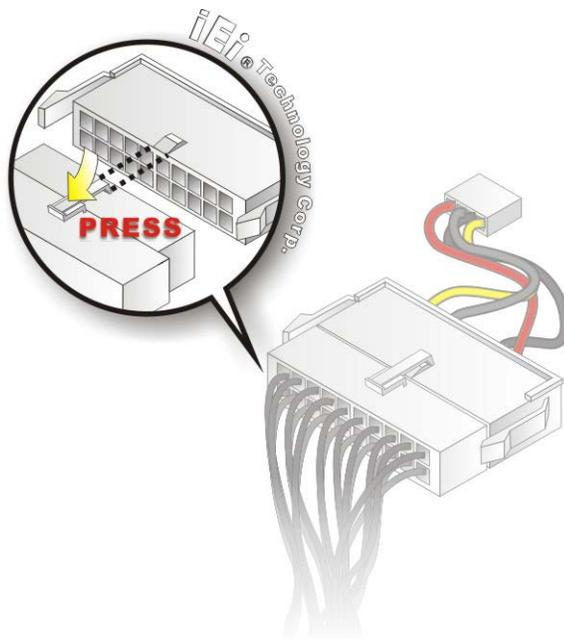

Figure 5-10: Connect ATX Power Adapter Cable to Power Supply
Step 4: Connect ATX Power Adapter Cable to Power Supply. Connect the 20-pin ATX power adapter cable to an ATX power supply. See **Figure 5-10**.